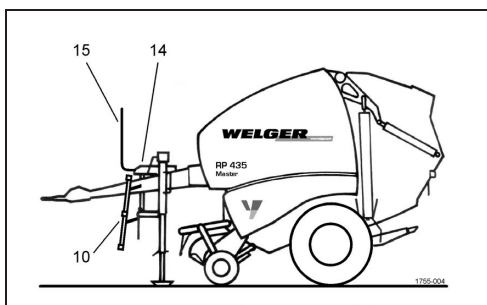
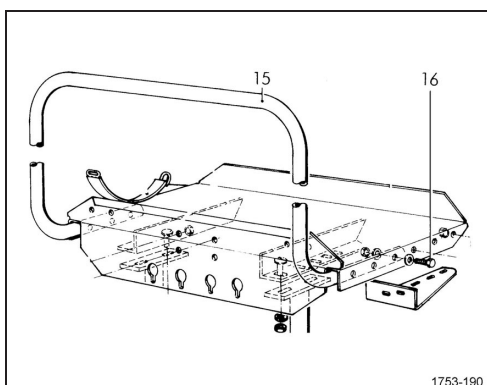

Figure 4
Figure 5
Never step on the maintenance platform [14] (Figure 4), while the machine is in motion. Before stepping on the maintenance platform: stop machine, switch-off power take-off shaft and tractor motor and wait for standstill of the machine.
- ❑ (Figure 4) To climb the maintenance platform: fold down the ladder [10].
- ❑ (Figure 4) Before the machine can move on: fold up and lock the ladder [10] again.
(Figure 4, Figure 5) For transportation the railing [15] is removed from the maintenance platform in the factory and enclosed with the machine. The railing must be mounted again before commissioning of the machine:
- ❑ Mount the railing [15] to the maintenance platform using the 6 enclosed screws [16] (Figure 5).